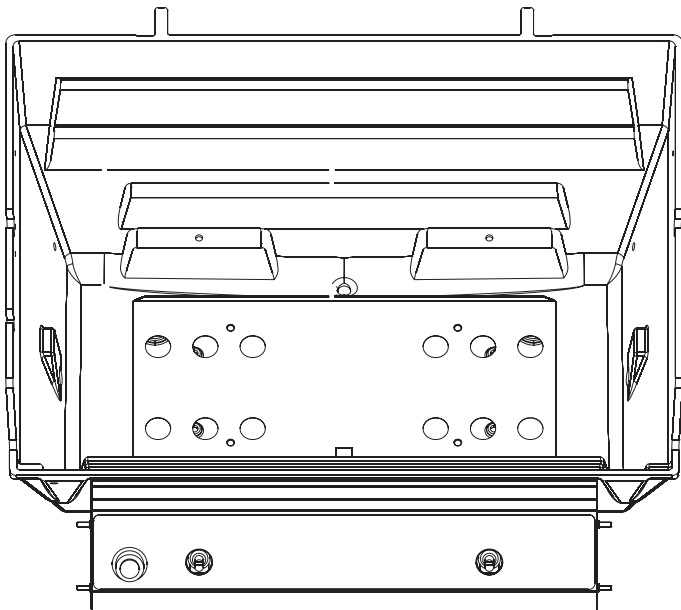

Figure 24
2. Place wind deflector (flange side up) onto four raised bosses located on the interior bottom of the grill. **See Figure 24.**